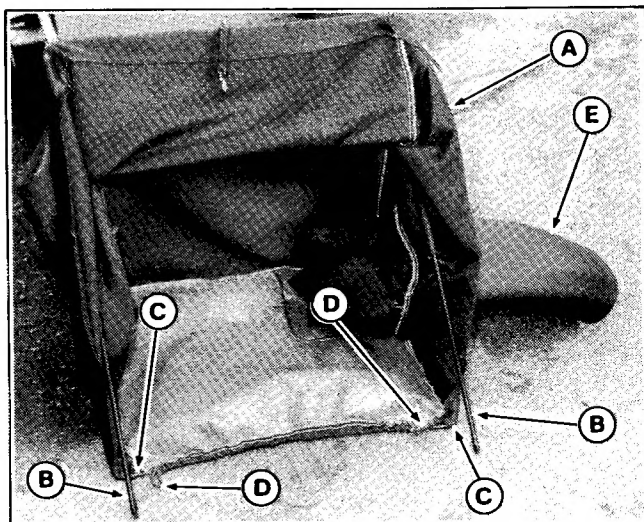
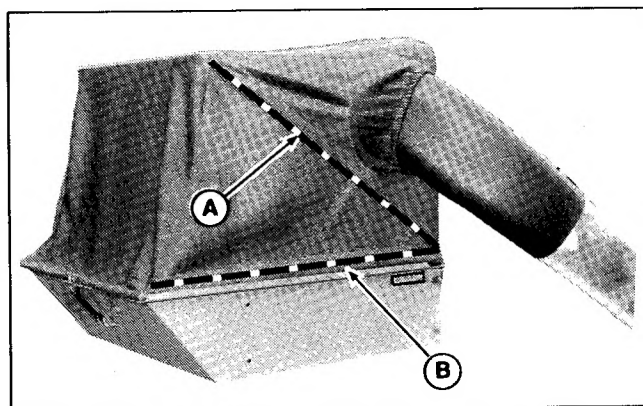

Figure 7.
Figure 8.
3. The support rod (B, figure 7) and frame rod (C) must be inserted into the cover (A) as follows:
- a. The frame rod (C) must be inserted through the bottom sleeve of the cover so that the two bent ends extend out openings, which are next to the cord loops (D). The frame rod position is indicated by dotted line (B, figure 8).
- b. The support rod (B, figure 7), which has eyebolt ends, must be threaded through the sleeve inside the cover. The position is indicated by dotted line (A, figure 8).
4. Insert the elbow (E, figure 7) into the cover opening.
When you pick up the cover to place over the frame, be sure support rod (B, figure 7) is inside frame rod (C).